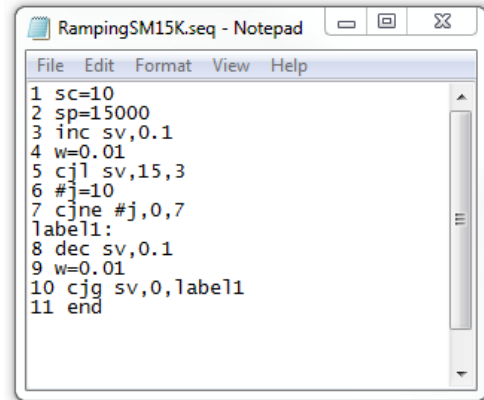
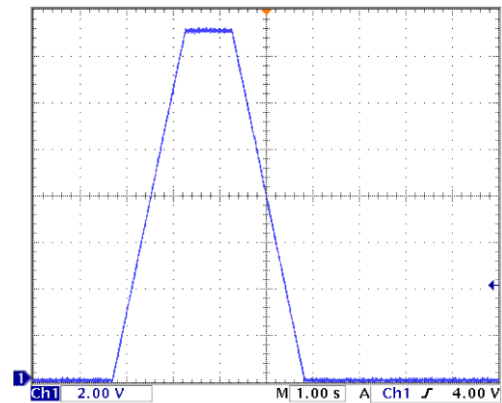

Figure 9.4: Example of a small sequence to ramp up the output to 15V and then back to 0V.
Figure 9.5: Output voltage as result of the above example.
- Notepad. Save as "filename.seq". An example is shown in Figure 9.4 and Figure 9.5.